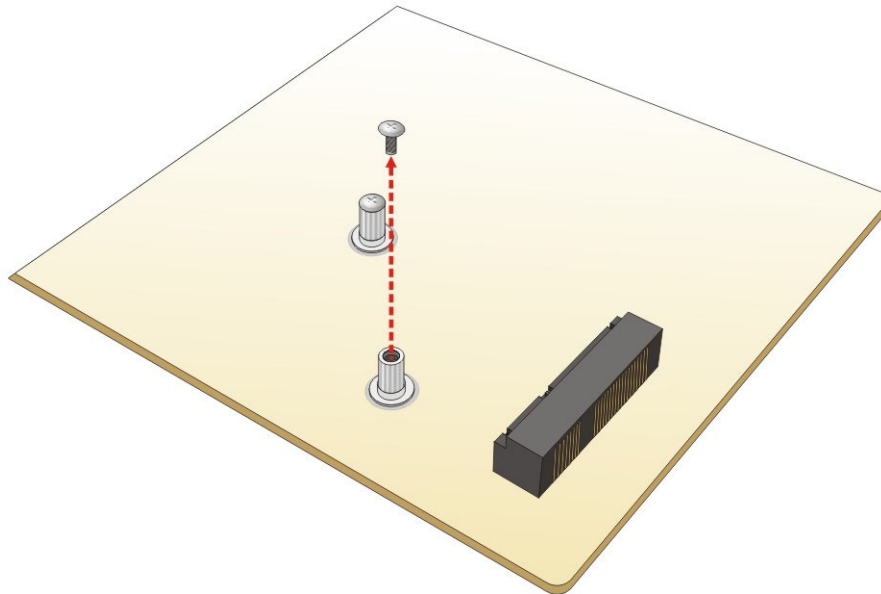

Figure 4-11: Removing the Retention Screw
Step 2: **Remove the retention screw.** Remove the retention screw as shown in **Figure 4-11**.